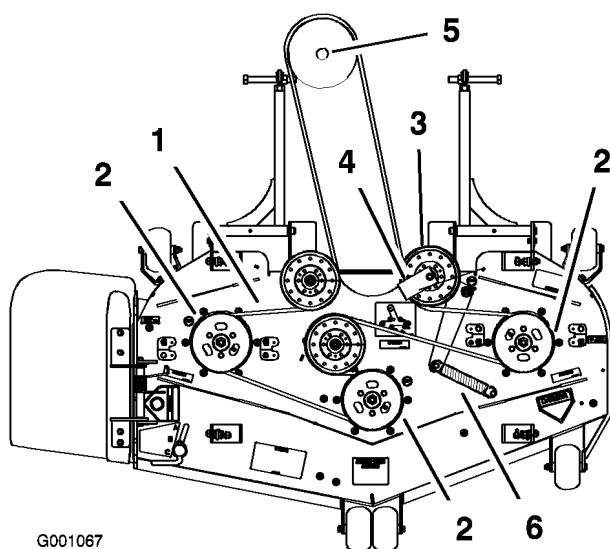

Figure 56
6. Install the new belt around the mower pulleys and the gearbox pulley under the engine (Figure 56).
7. Install spring to the idler arm (Figure 56).
8. Install the belt guide on the spring loaded idler at a 45 degree angle as shown in Figure 56.